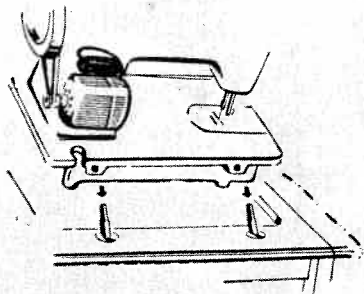

Fig. 3
1. Loosen the two hinge screws under the holes in the rear edge of the machine bed. (Fig. 3)